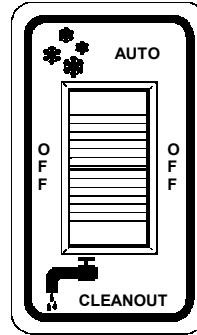

Fig. 2
2. Set each control switch (Fig. 2) to the "CLEANOUT" position momentarily to verify the direction of rotation of the dasher. Looking at the front of the machine, the dasher should rotate counter-clockwise.